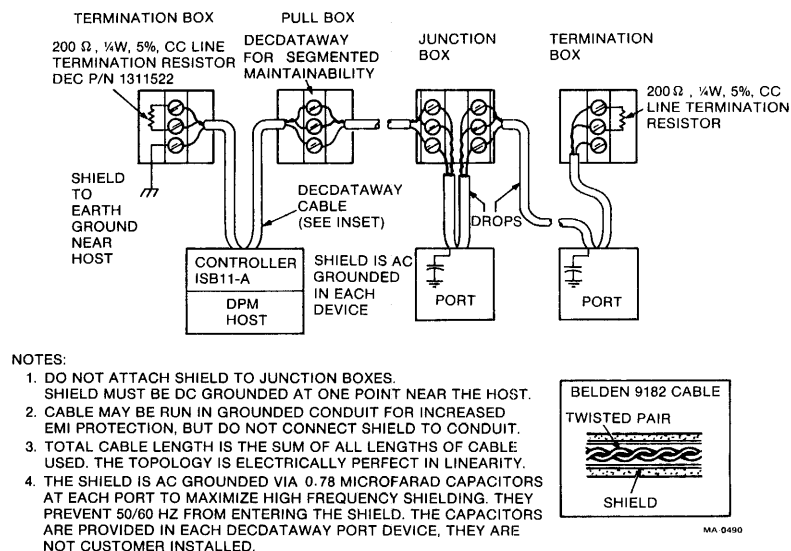

Figure 2-2 Cable Routing
2.5 CABLE ROUTING CONSIDERATIONS (Figure 2-2)
As indicated in Chapter 1, DIGITAL recommends the use of Belden 9182 cable. A shielded, twisted pair of 22 AWG conductors can be used. The maximum length from the ISB11-A to all DECdataway ports is 4572 m (15,000 ft), *including* the length contributions of drops from the trunk as indicated in Figure 2-2. This length applies to Belden 9182 only.